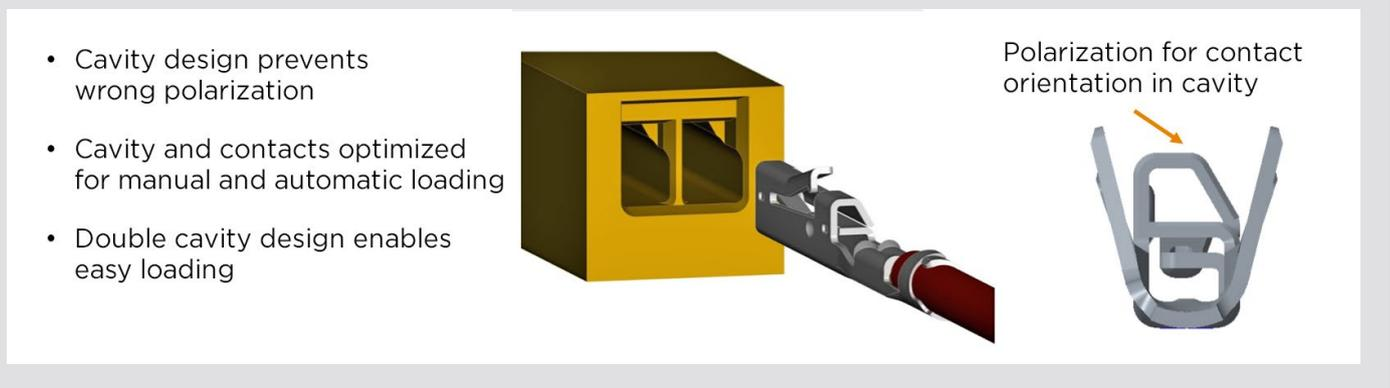

Figure 4: Polarization of NanoMQS contact
NanoMQS housing components (headers and connectors) are made from high-grade thermoplastic. There are two versions, Top Latch (TL) and Side Latch (SL), both of which are available in a perpendicular or parallel orientation to the PCB. A notable difference between the two versions is the position of the locking device of TL version, which is located centrally on top of the housing (Figure 4).